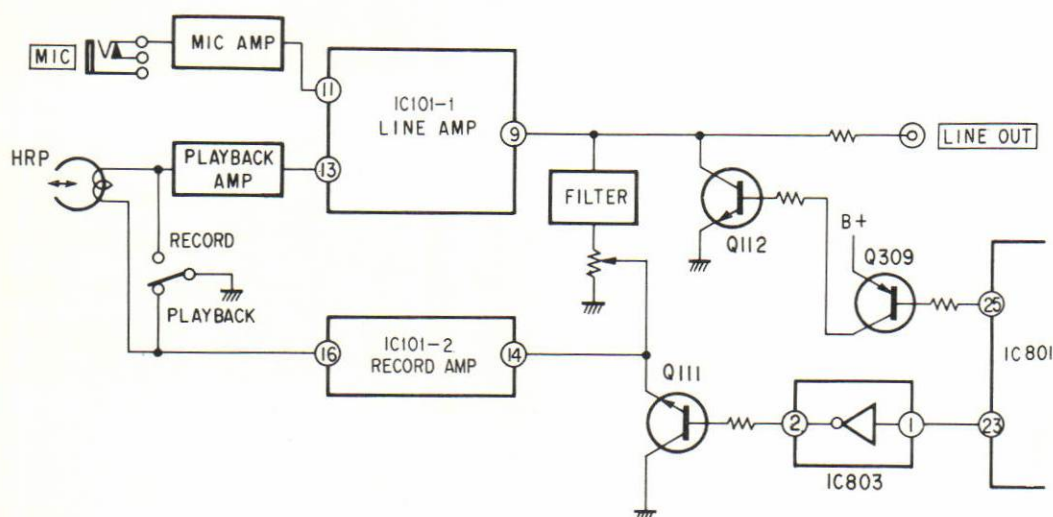

Fig. 10
4. Muting Circuit (See Fig. 10)